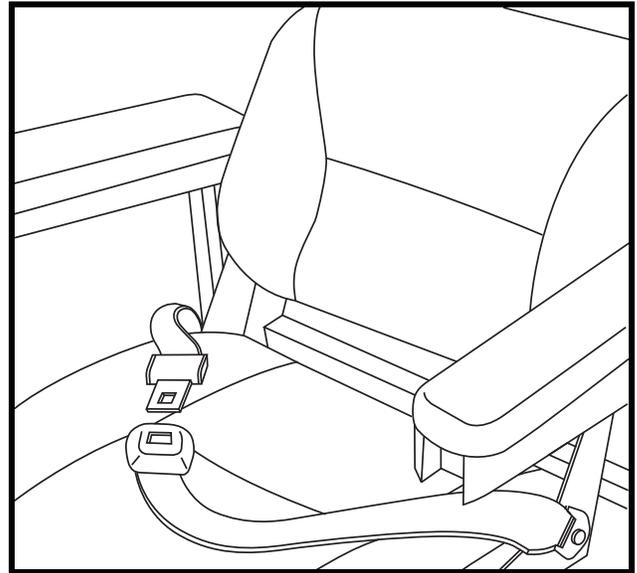

Figure 15. Positioning Belt
1. Insert the metal tab on the right side of the belt into the plastic housing on the opposite strap until you hear a “click.” See figure 15.